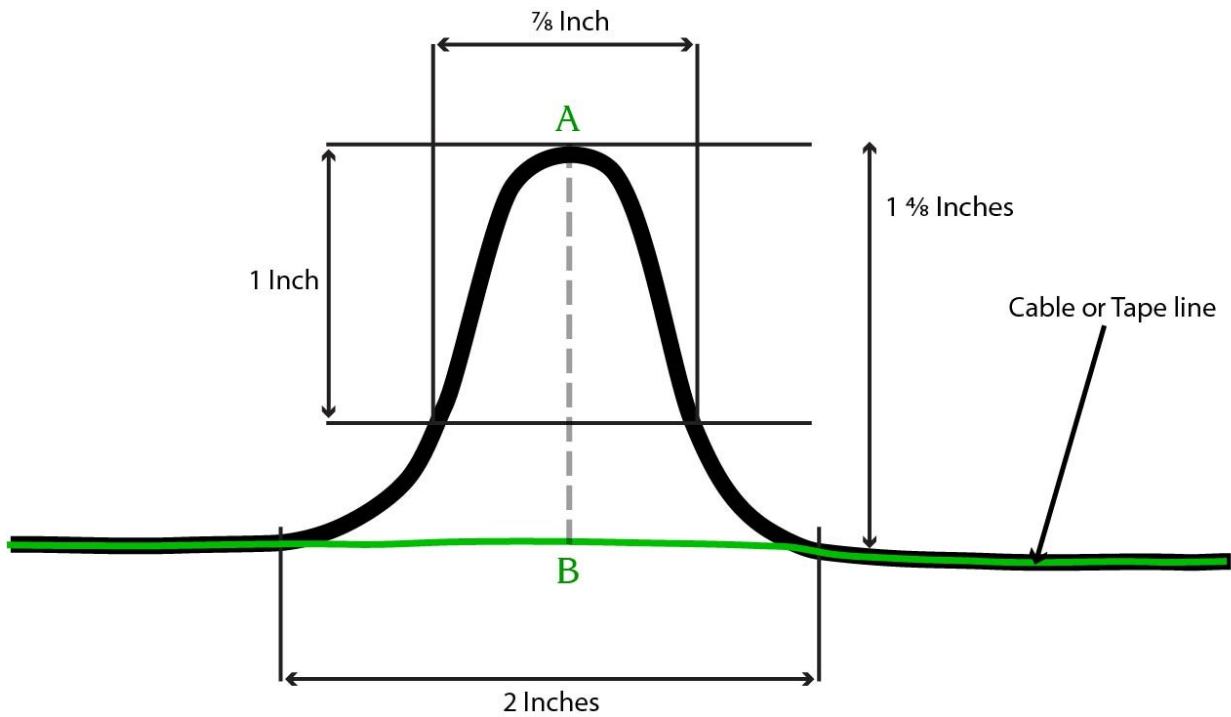

Figure 6
C) Regardless of the base size, if a tine has a width of 1 inch or less at 1 inch or more from the top, such a tine is a valid tine. In other words, if a tine could be cut at any place along its length in such a manner that it would be a valid tine (length equal to or greater than base), such a tine is a valid tine, no matter how large the base width at the parent antler. See Figure 6. This tine has a length of $1\frac{4}{8}$ inches and a base of 2 inches and this would normally disqualify the tine, but since the width of the tine 1 inch from the point is $\frac{7}{8}$ inch, it will qualify as a valid tine. The same is true for deer with a minimum tine length of 0.5 inch; regardless of the base size, if a tine has a width of 0.5 inch or less at 0.5 inch or more from the top, such a tine is a valid tine.